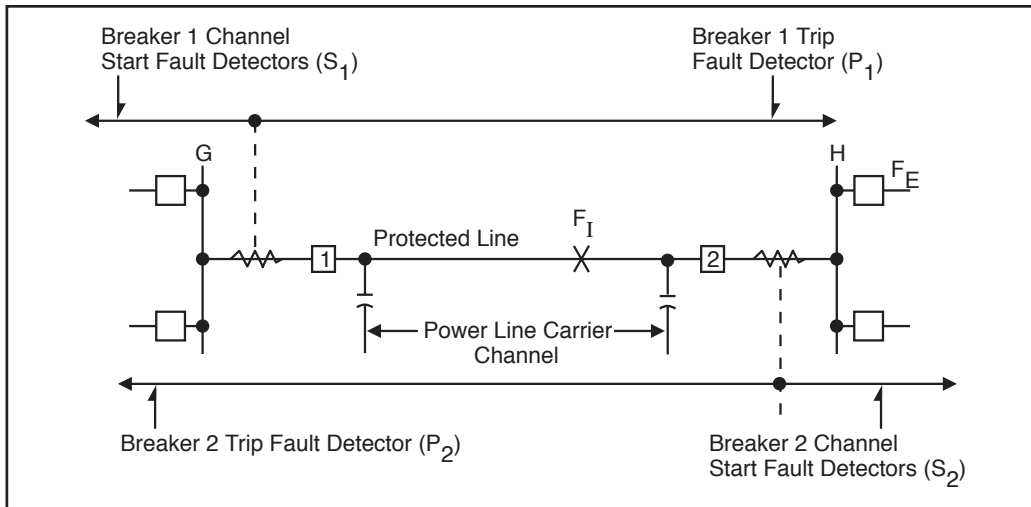
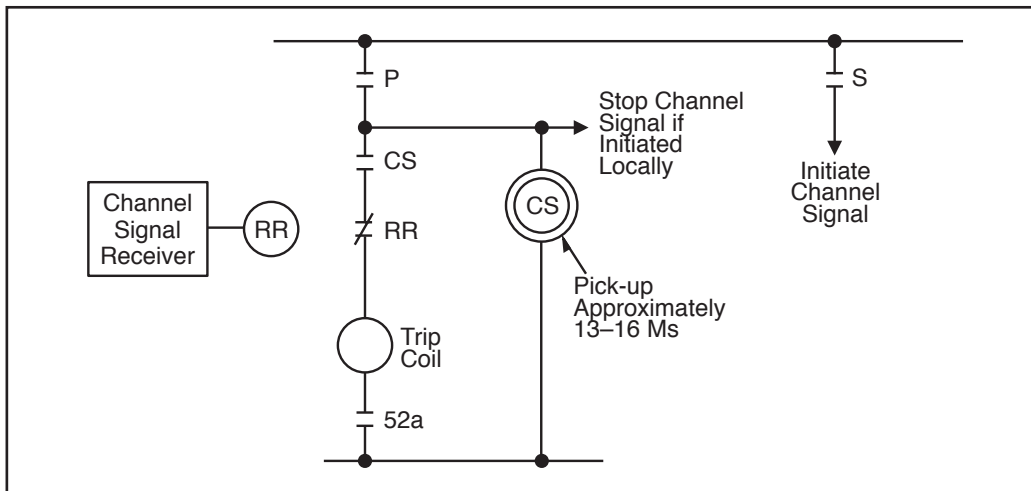

Figure 2-1a. Basic Elements.
Figure 2-1b. Contact Logic (per Terminal).
The basic elements for directional-comparison blocking systems are shown in Figure 2-1a and Figure 2-1b. At each terminal, the phase and ground trip units (P) must be directional and set to overreach the remote terminal; that is, they must be set to operate for all internal faults. Nominal settings of the distance units are 120 to 150 percent of the line. The start units (S) must reach farther, or be set more sensitively, than the remote trip units. Thus S₁ must be set more sensitively than P₂ or reach farther behind bus G. Likewise, S₂ must be set more sensitively than P₁ or reach farther behind bus H. In any case, the S and P relays should be similar in type. If the trip unit (P) is a directional overcurrent ground relay, the start (S) ground relay should be a similar non-directional overcurrent unit. The same principle applies for the phase relays.
Operation of the directional-comparison scheme (shown in Figure 2-1a and Figure 2-1b) is internal faults. Subscript 1 indicates relays at station G for breaker 1; subscript 2, relays at
station H for breaker 2. (Figure 2-1c shows a solid-state logic version of Figure 2-1b.)